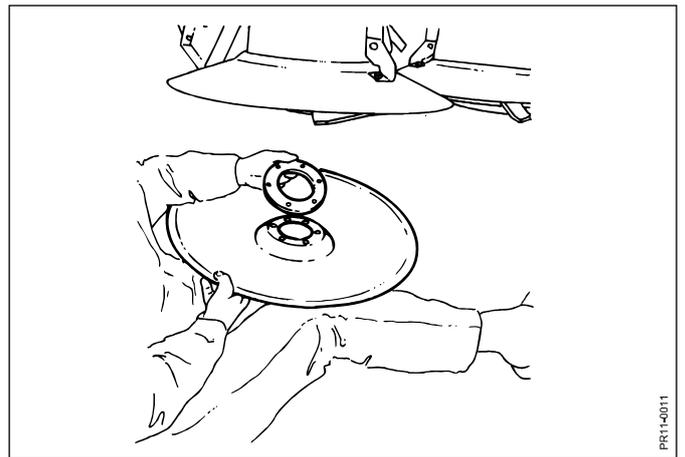

Fig. 3-10
- Fig. 3-10** A higher cut is obtained by mounting the supplied spacers at the guide shoes (the tool packet).